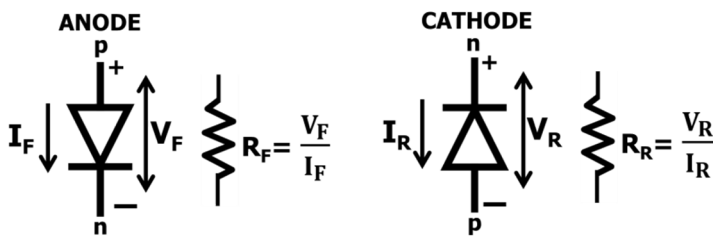

**Fig 2.6 Germanium diode – Fwd and Rev characteristics**
Refer fig 2.6.
**Problem 2.1:** In fig 2.6, calculate the forward resistance of the germanium diode, at IF = 60mA